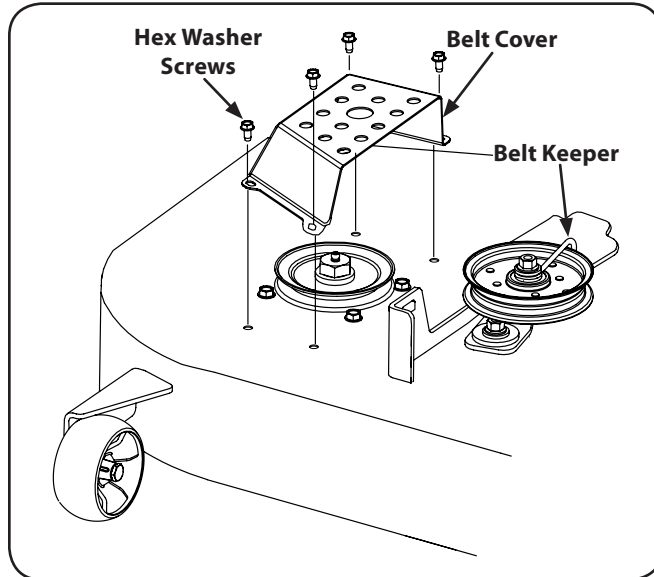

Figure 7-9
2. Remove the hex washer screws securing the belt covers to the deck and loosen the belt keepers enough to slide the belt off the pulleys. See Fig. 7-9.
3. Remove the belt from the spindle pulleys. Refer to Fig. 7-9.